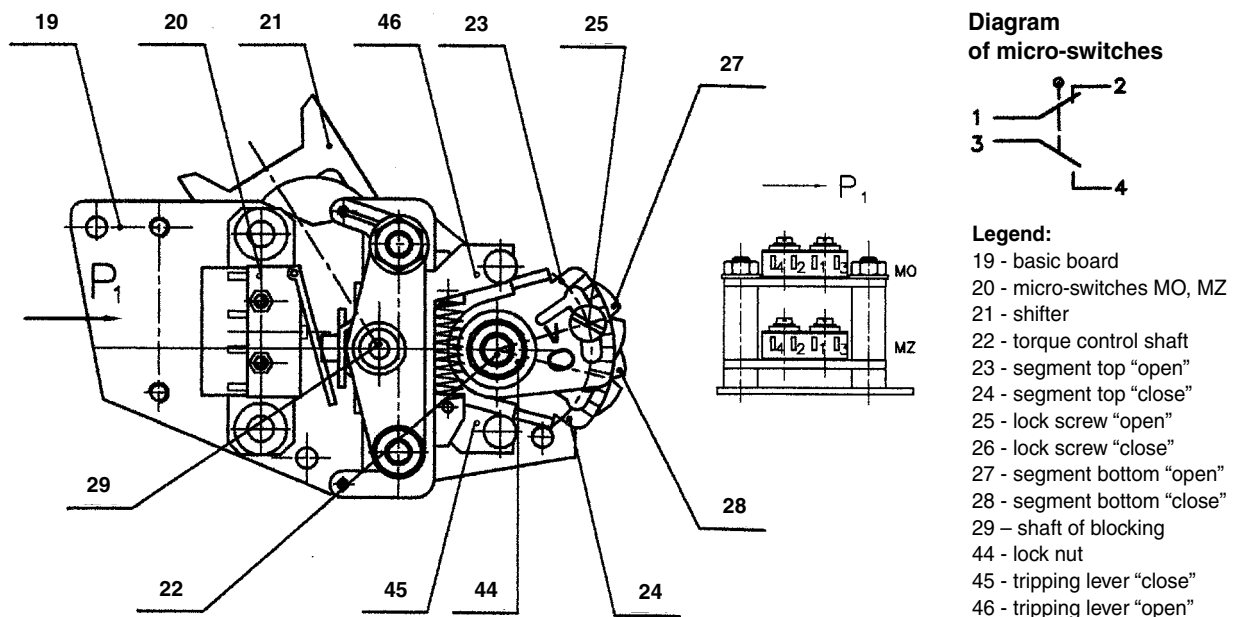

Fig. 2 - Torque-limit switching unit
**a) Torque-limit switching unit** - Fig. 2 is, as an independent assembly unit, composed of basic board 19 carrying micro-switches 20 and, at the same time, forms bearings for the shaft of torque control 22 and the shaft of blocking 29.
In setting different tripping torque than that to which the unit was set in the factory, the procedure is as follows: release lock nut 44 (see Fig. 2) and particular lock screw -26- (for direction “close”) or 25 (for direction “open”). Then, insert a screwdriver into the slot in top segment -24- or -23- and turn the segment until the slot in segment 28 or 27 matches with particular point on the scale. This point is determined by dividing the difference between the maximum and minimum adjustable torque in Nm by the number of divisions between the mark of the maximum and minimum torque. The result shows which part of the tripping torque (in Nm) corresponds to one division of the scale; interpolation is used for determining the point on the scale which the slot in segment 28 or 27 should tally with.